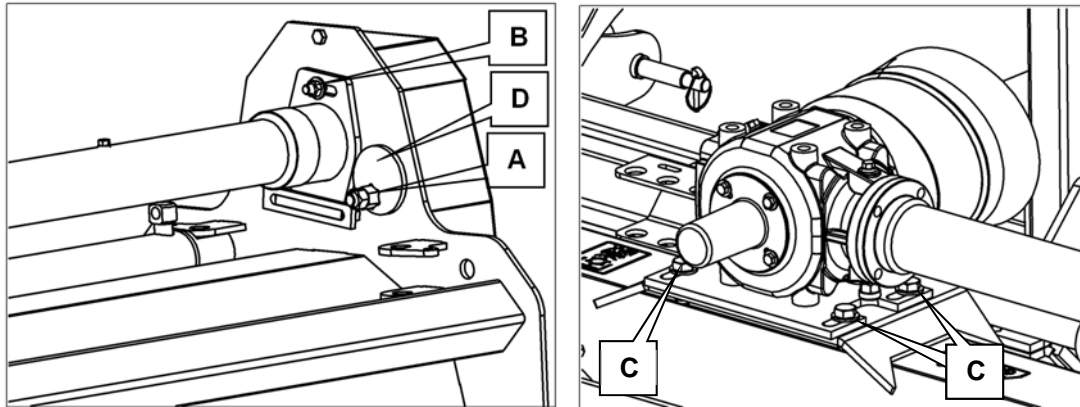

Figure 6.7
Adjustment of the belt tension is performed by loosening the adjuster locking nut (A) and slackening half-shaft lock bolt (B) along with the four Gearbox mounting bolts (C), see Figure 6.7 below. Then using a spanner on the captive nut (D) rotate the cam plate (D) to increase or decrease belt tension until belt deviation matches the required measurement – see above. Belt tensioning should be performed when the belts are cold. Re-tighten bolts 'B' and 'C' and locknut 'A' when belt tension is correct.